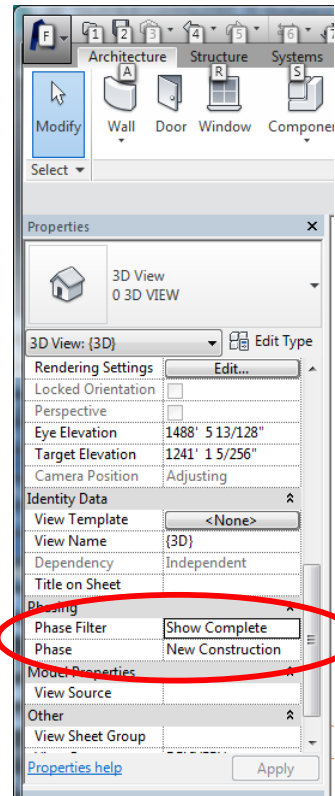

FIGURE 3: HOW TO CHECK OBJECTS' VISIBILITY
- a. Check the phasing and make sure the phase filter is set to "Show Complete" and the phase is set to "New Construction". (See Figure 3)